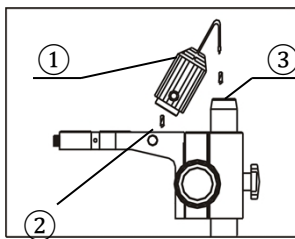

Fig.6
- 1) Insert the illumination device(1) in the bracket with the protrudent side toward the lock-screw(2) and tighten the lock-screw.(Fig.6)
- 2) Put the plug into the socket of the pillar stand (3).